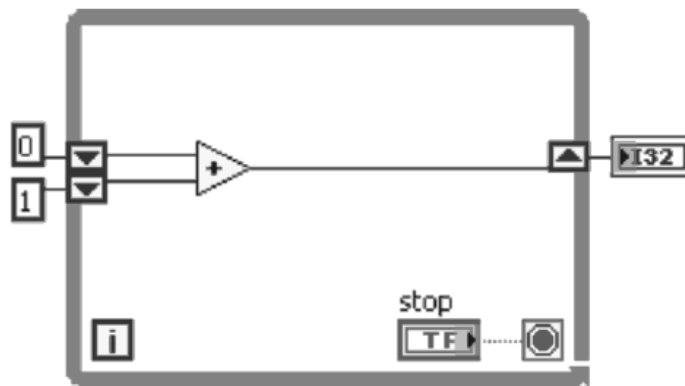

Figure 4.14 Stacked shift registers.
- Stacked shift registers, as shown in Figure 4.14, can only occur on the left side of the loop, because the right terminal only transfers the data generated from the current iteration to the next iteration.